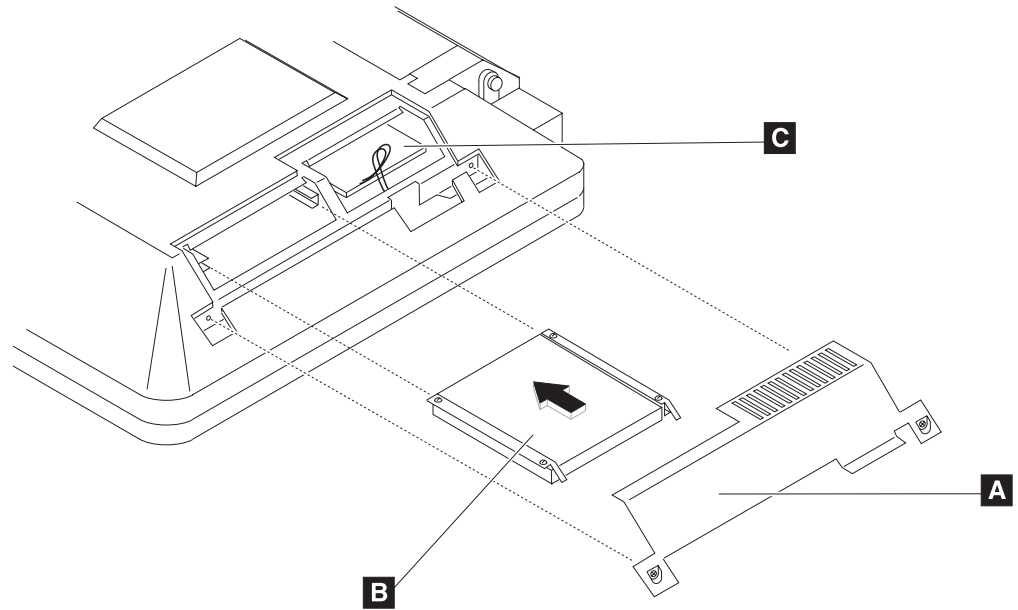

Figure 8. Removing the hard drive cover
2. Unfasten the two captured screws to remove the HDD door ( **A** ). See Figure 8.